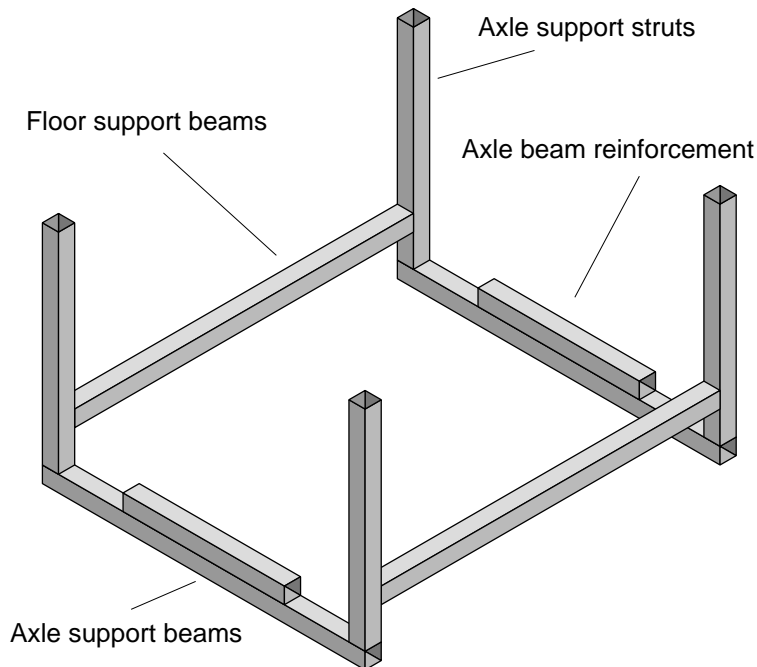

Figure 4: main frame assembly.
- 3) Then stand the two H frames on the axle support beams as shown in Figure 4 and weld up the main frame. If you are using our PVC bearing system then weld on some axle beam reinforcement as shown in the figures but with the ball bearing and wooden bearing types you do not need this.